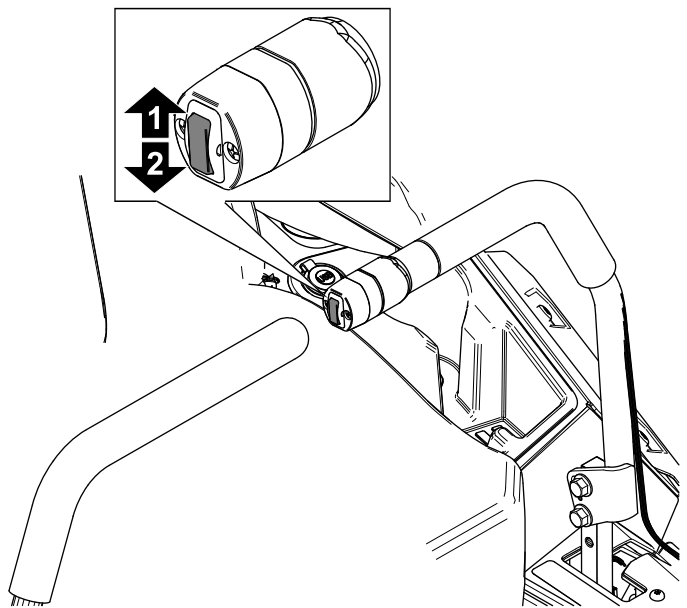

Figure 33
1. Push up on the deck-lift switch (Figure 33) until the deck is completely raised.
1. Push up on the deck-lift switch (Figure 33).